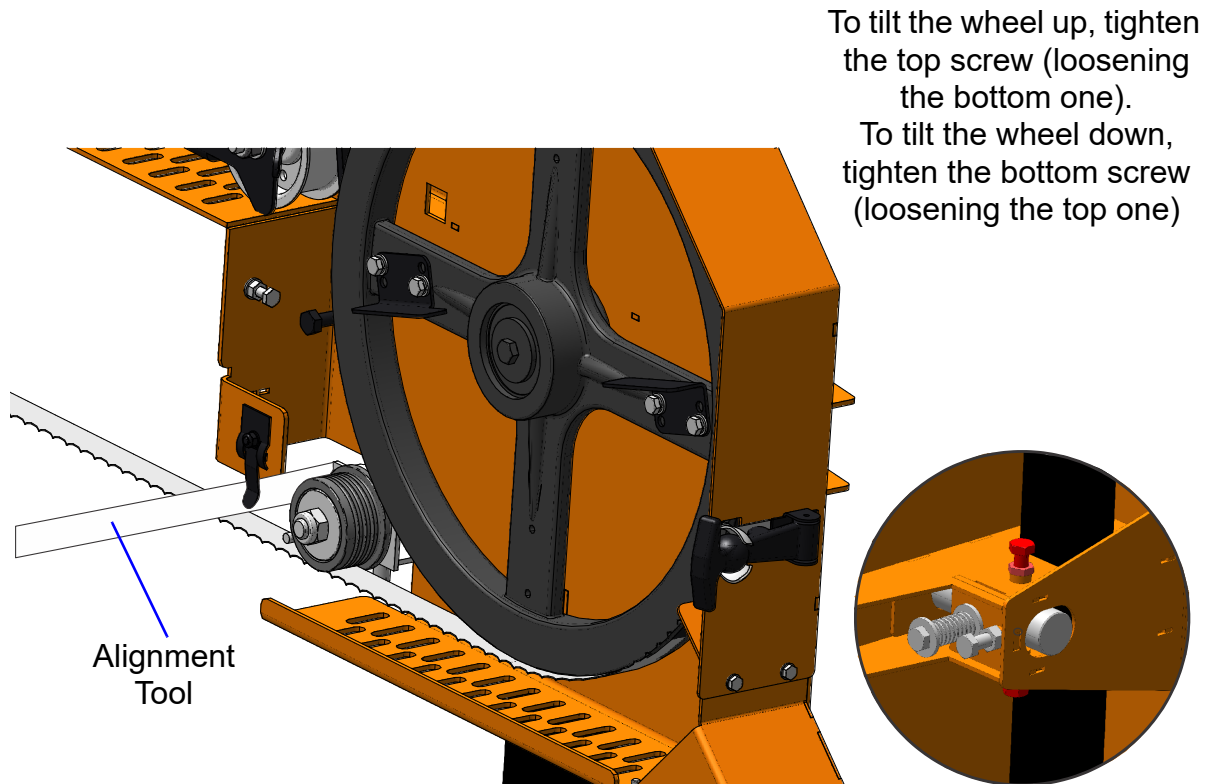

FIG. 3-7
**See figure 3-7.** Use the screws shown below to adjust the drive blade wheel vertically. To tilt the wheel down, loosen the top adjustment screw a half turn. Loosen the jam nut on the bottom adjustment screw and tighten the screw. Tighten the top and bottom jam nuts.